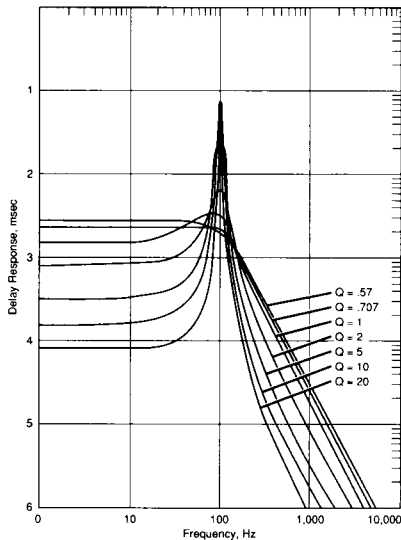
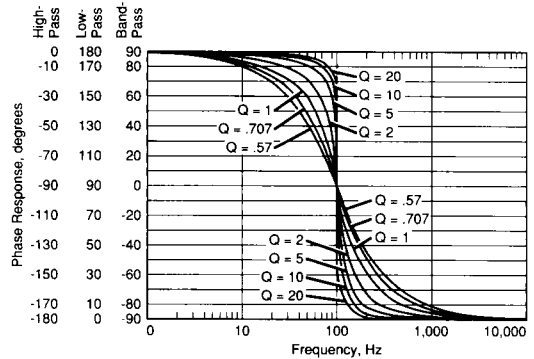

Figure 9. Typical Delay Responses (Bandpass, Low Pass, High Pass)
Figure 10. Typical Phase Response
- c. Group delay is defined as the negative of the derivative of phase with respect to (angular) frequency,  $GD = -d\phi/d\omega$ . Approximations can be derived from the phase plot (arctangent of the transfer function) of Figure 10 in conjunction with the formula  $GD = -(\Delta\phi/360^\circ)/2\pi\Delta f$ . For a small incremental change in frequency ( $\Delta f$ ), this calculation is the slope of the curve on the phase plot at any given frequency. Plots of these calculations are shown in Figure 9. A practical alternative to this is to measure the envelope delay of a burst of oscillation. Often in signalling circuits, the relative group delay difference between two points in the passband is more important than the maximum absolute time delay through the filter.